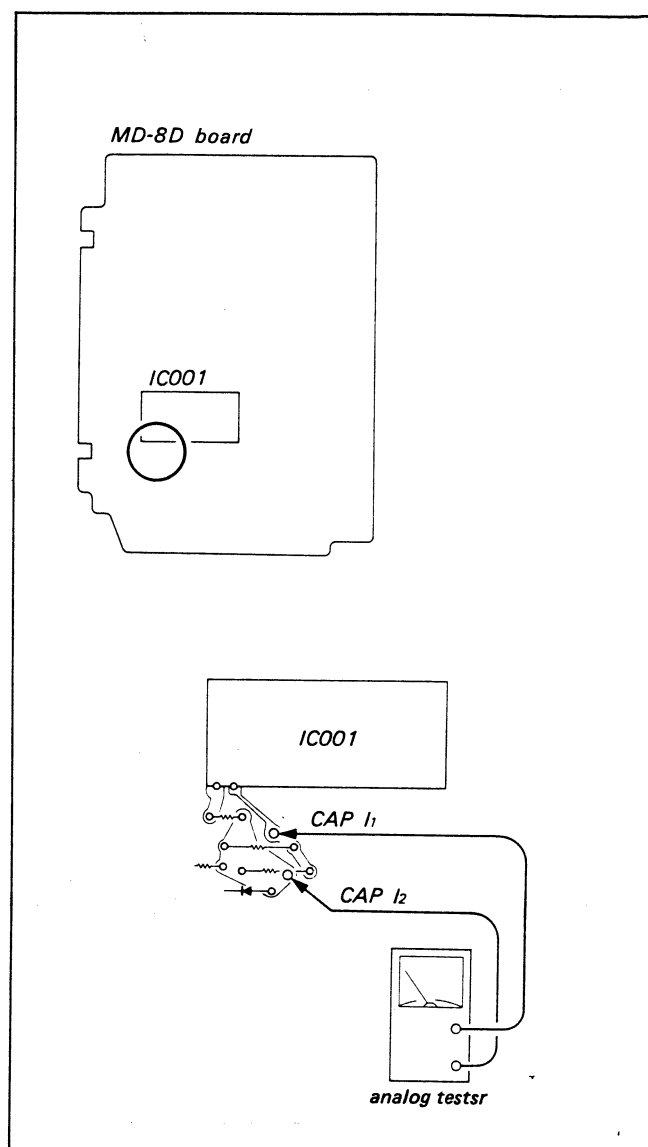

Fig. 3-54.
- 6) Measure the voltage (Vo) between MD-8D board CAP I₁ and CAP I₂ with an analog tester. (unloaded state) (Fig. 3-54)
- 7) Mount conversion gear assembly ④, gear flange ③, stopper washer ② and dynamic belt ①.
- 8) Remove drive gear (B).